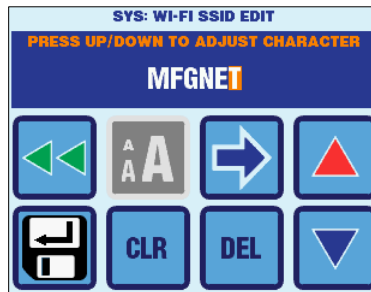

Figure 46 – Wi-Fi Network Name (SSID) & Password Screens
**Network Name (SSID) & Password** – The Wi-Fi Network Name (SSID) and Password can be set via the screen shown in Figure 46. If the network does not use a password, the password setting does not matter and can be left at any value (e.g. space).